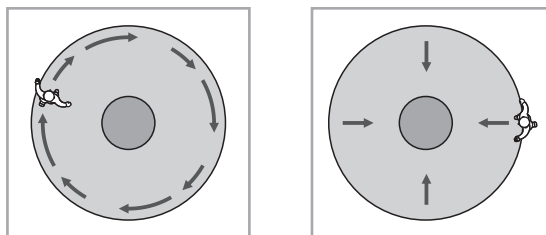

FIG.21
- Walk from outside across or toward to the detection coverage until LED and load turn on for 2sec (See FIG.21).